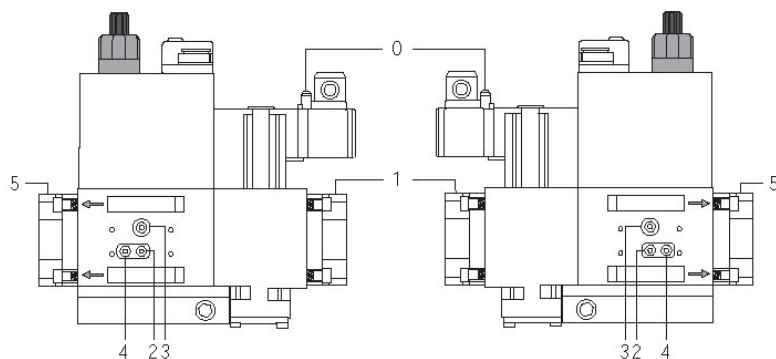
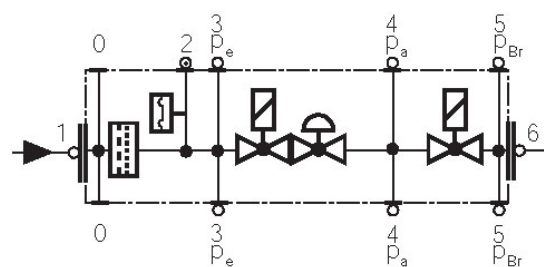

Fig. 29
Fig. 30
- Change the filter if the pressure difference between pressure connection 1 and 2 (Fig. 29-Fig. 30)  $\Delta p > 10$  mbar.
- Change the filter if the pressure difference between pressure connection 1 and 2 (Fig. 29-Fig. 30) is twice as high compared to the last check.